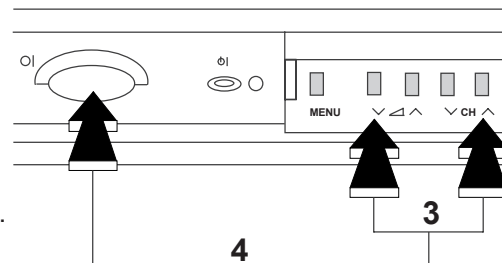

Figure 1
3. Press the volume down and channel up buttons together. See Fig.1.
4. Continue pressing the volume down and channel up buttons while turning the mains on using the mains switch. See Figure 1.